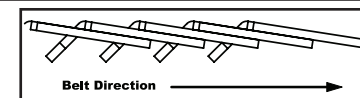

Fig. 1
- 2 Determine direction of drive rotation (CW or CCW). Belt must travel with tabs trailing (Fig. 1)